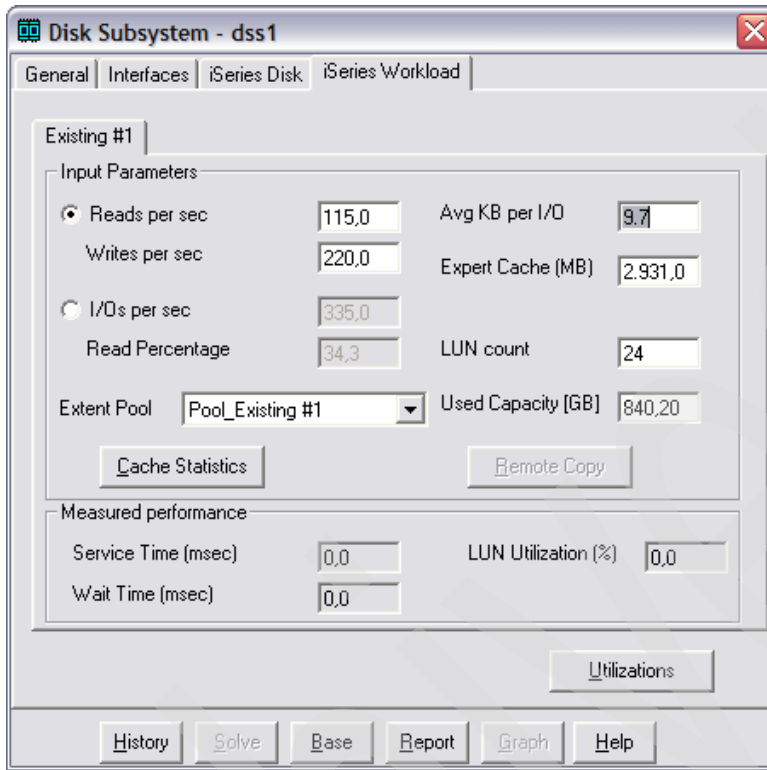

Figure 4-110 Workload in Disk Magic
- f. Enter the block size that was used for WLE, if needed (Figure 4-110). Click **Cache Statistics**.